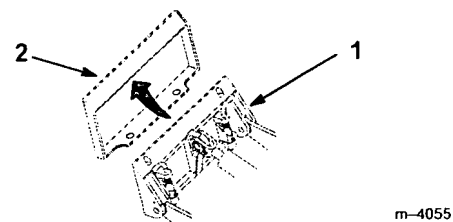

Figure 18
5. Position mount plate into the upper lip of the attachment receiver plate (Fig. 18).